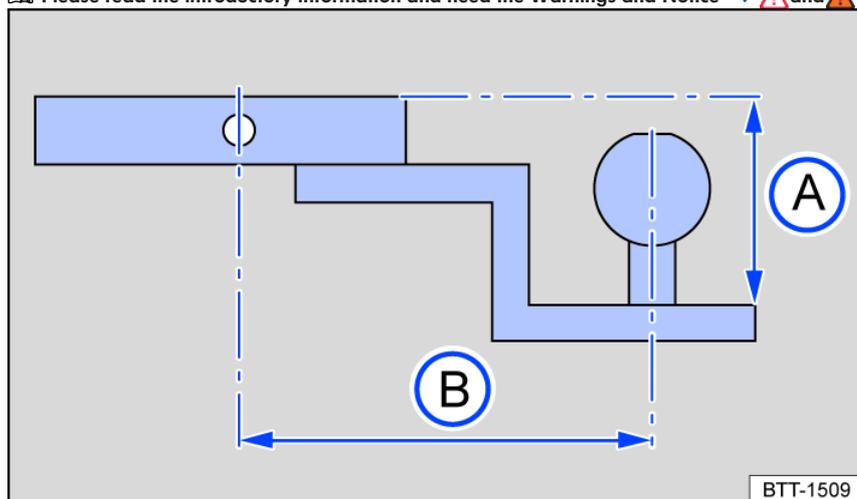

Fig. 162 Dimensions of the hitch ball holder and mount.
The mount requires that the hitch ball holder and ball head have a special shape and size. This also concerns the drop height of the ball head fig. 162 A, as well as the distance of the locking pin to the ball head fig. 162 B.
- The drop height fig. 162 A from the upper edge of the ball head to the upper edge of the neck may be minimum 25.4 mm (1 inch) and maximum 73 mm (2 7/8 inches).
The distance of the locking pin to the ball head fig. 162 B from the center of the ball head to the center of the pin eye may not exceed 178 mm (7 inches).